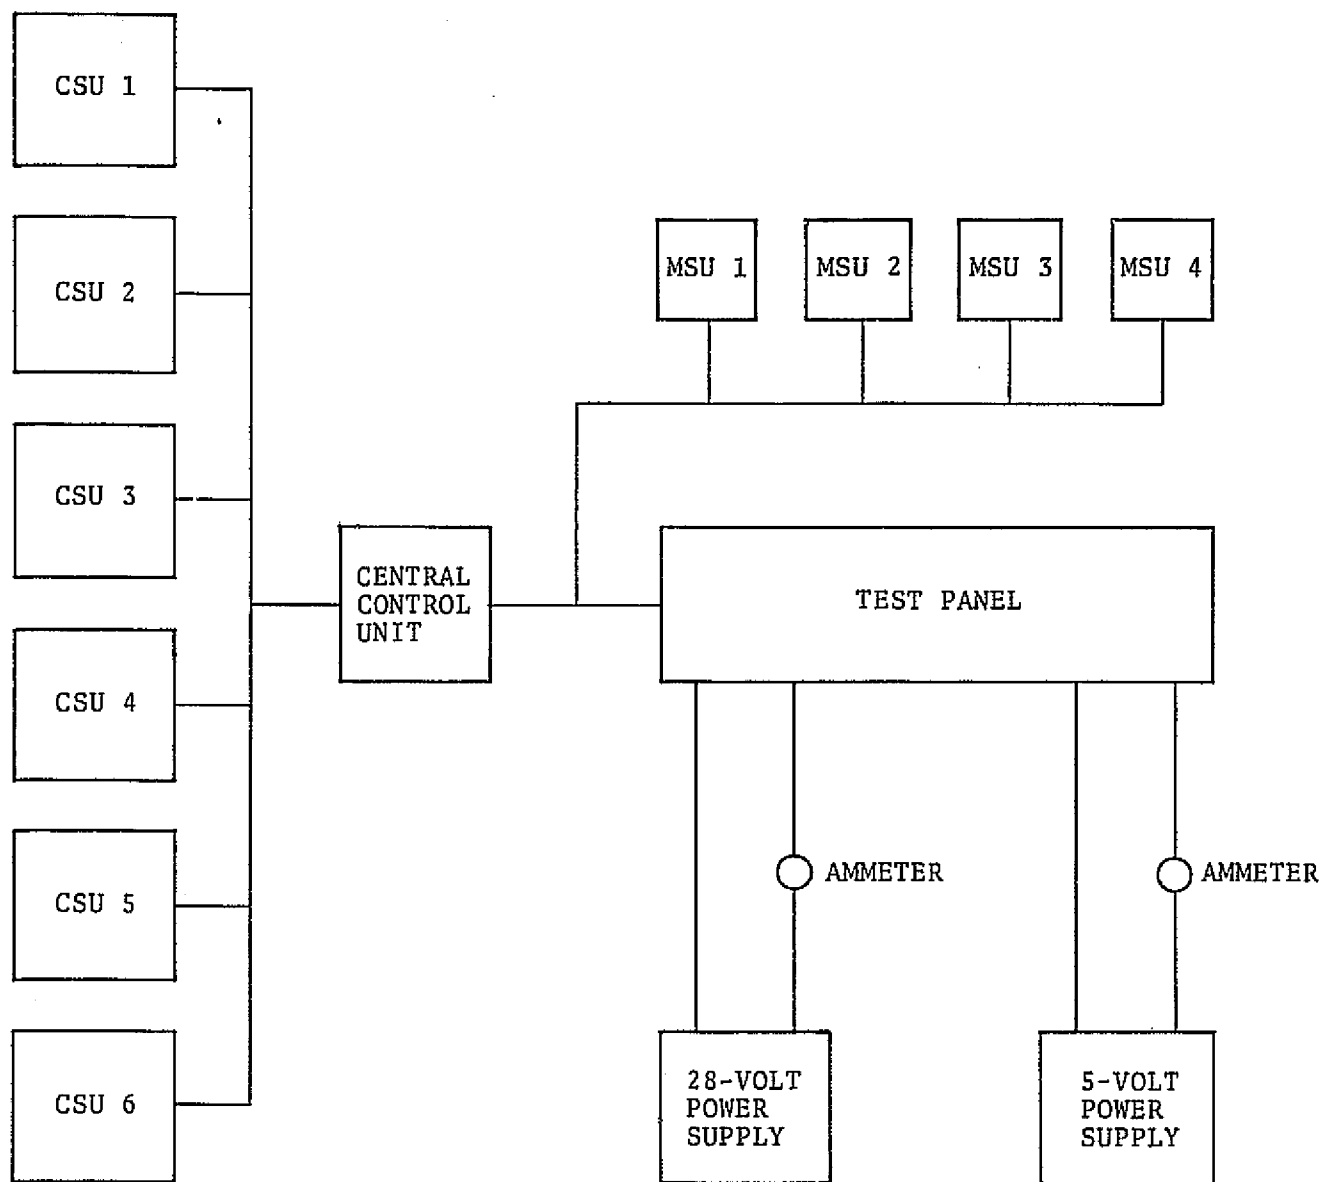

Figure 6-4. — Power requirements test setup.
1. Connect the equipment as shown in figure 6-4.